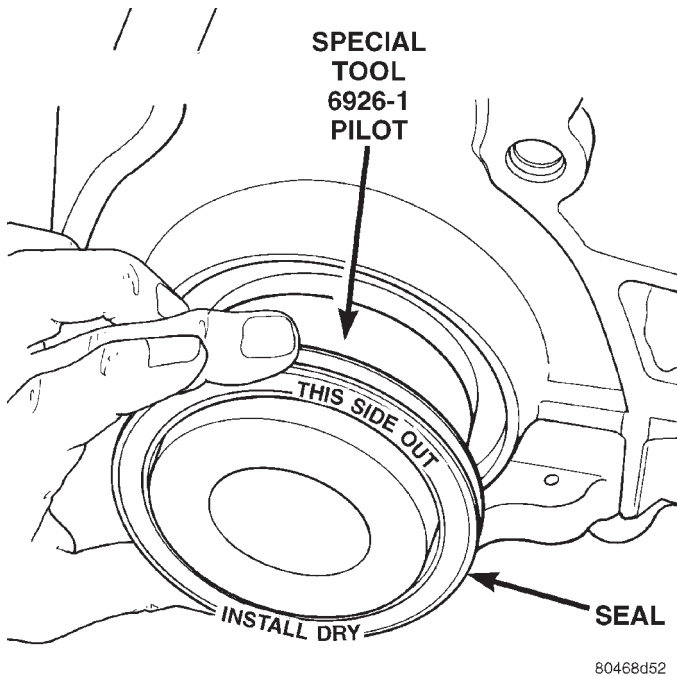

Fig. 79 Rear Crankshaft Seal and Special Tool 6926-1
- (1) Place Special Tool 6926-1 on crankshaft. This is a pilot tool with a magnetic base (Fig. 79).
- (2) Position seal over pilot tool. Make sure you can read the words **THIS SIDE OUT** on seal (Fig. 79). Pilot tool should remain on crankshaft during installation of seal. Ensure that the lip of the seal is facing towards the crankcase during installation.